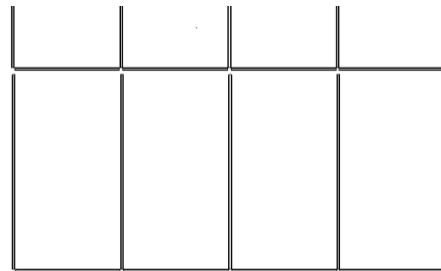

Figure 1
4.1.1 Place MT-Rail along both length and width direction according to your planning as shown in Figure 1.